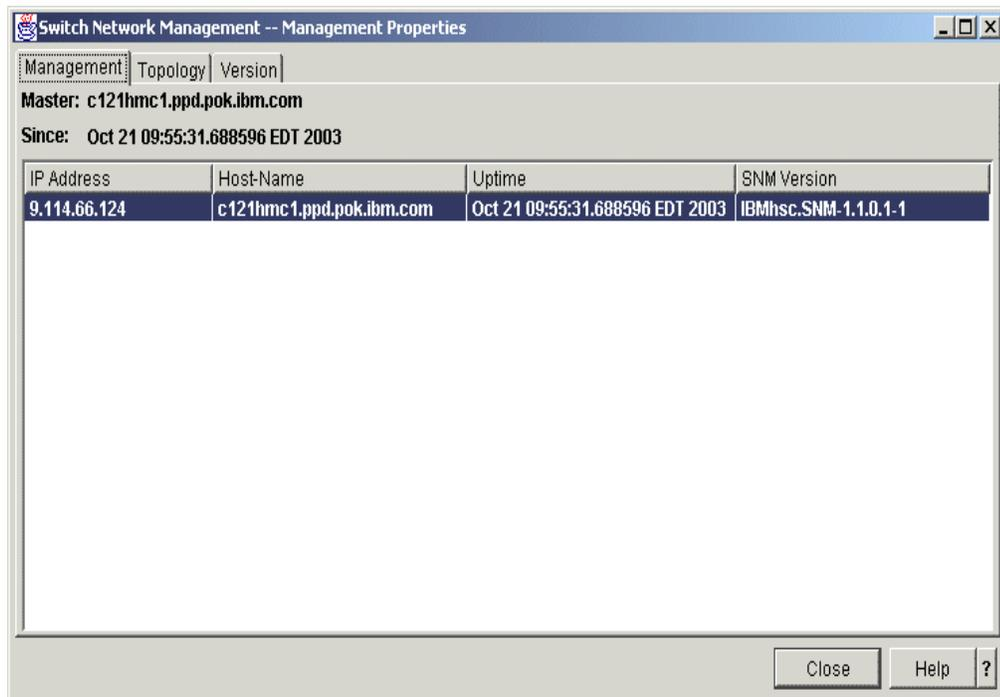

Figure 4-17 Switch Management Properties - Management view
- ▶ Management view (see Figure 4-17 on page 185): Select **Switch Management -> Switch Network Management -> Management Properties -> Management** tab.